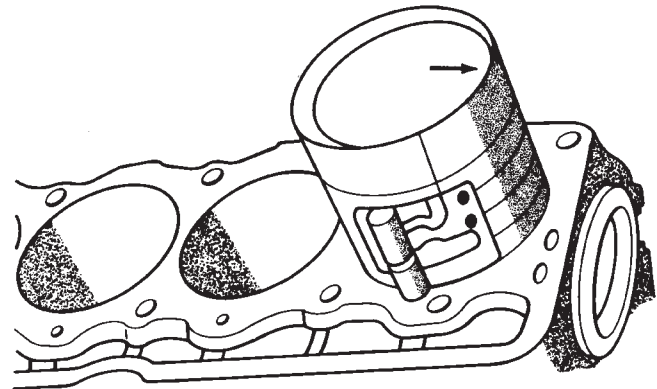

Fig. 65 Rod and Piston Assembly Installation
(5) Use a piston ring compressor to install the connecting rod and piston assemblies through the top of the cylinder bores (Fig. 65).
(6) Ensure the arrow on the piston top points to the front of the engine (Fig. 65).
(7) Raise the vehicle.
(8) Each bearing insert is fitted to its respective journal to obtain the specified clearance between the bearing and the journal. In production, the select fit is obtained by using various-sized, color-coded bearing inserts as listed in the Connecting Rod Bearing Fitting Chart. The color code appears on the edge of the bearing insert. The size is not stamped on inserts used for production of engines.